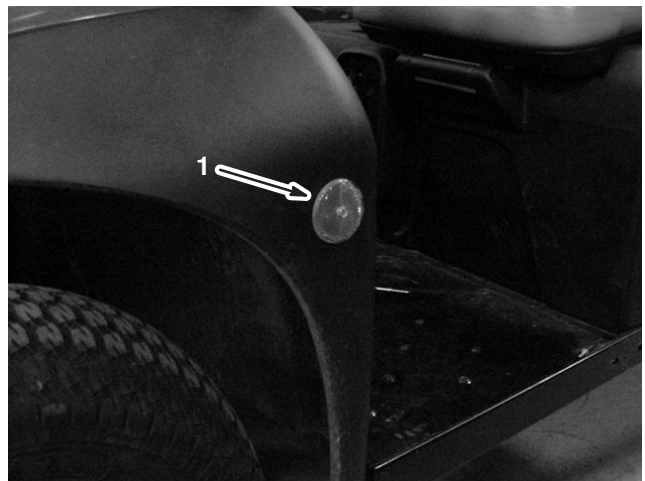

Figure 23
1. Drill a hole (#10 drill bit) on each side of the hood in the location shown in Figure 23.
2. Install the front reflectors, using 2 bolts (#10) and 2 locknuts (#10) (Fig. 23).